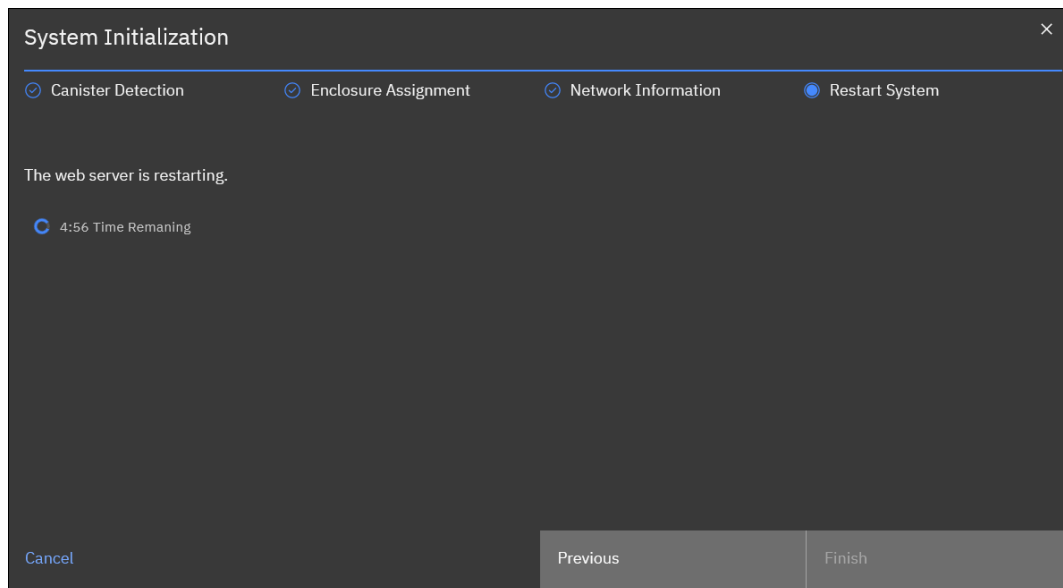

Figure 2-14 System Initialization: Web-server restart timer counting down from 5 minutes
7. A window that includes a restart timer opens (Figure 2-14). When the timeout is reached, the window is updated to reflect success or failure. Failure occurs if the system is disconnected from the network, which prevents the browser from updating with the IBM FlashSystem web server.